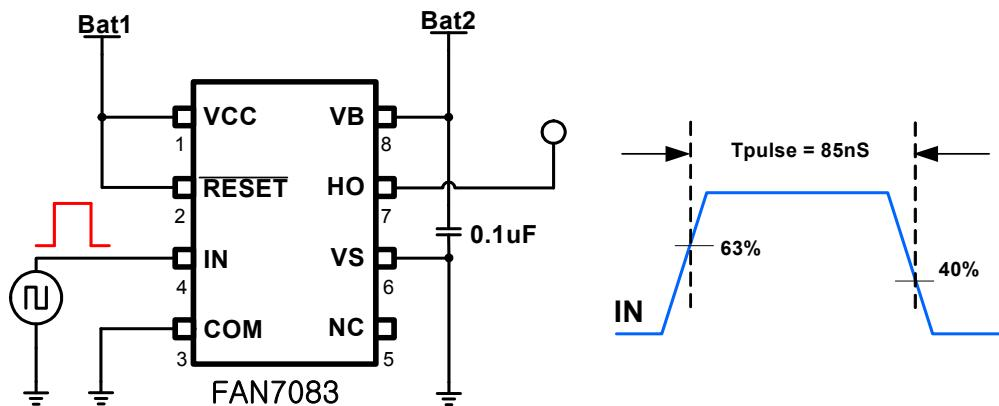

Figure 4a. Short Pulse Width Test Circuit and Pulse Width Waveform
3) Guaranteed by design. Refer to Figure 4a, 4b and 4c on Page 9.